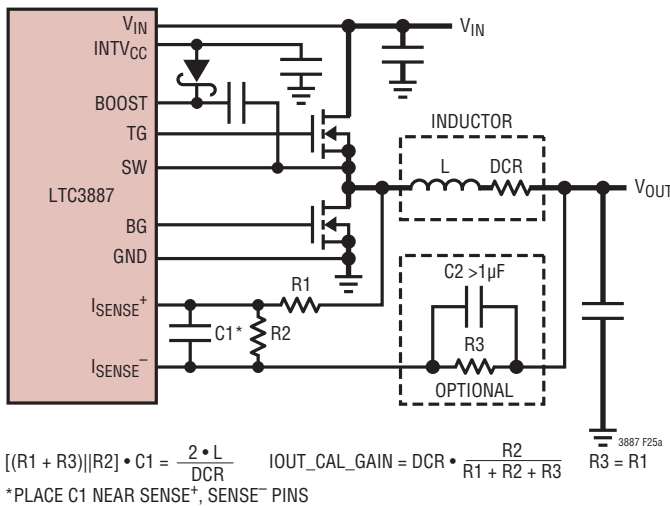

Figure 25a. Inductor DCR Current Sense Circuit
sharing between power stages. If DCR sensing is used (Figure 25a), sense resistor R1 should be placed close to the switching node (SW) to prevent noise from coupling into sensitive small-signal nodes. The capacitor C1 should be placed close to the IC pins. This impedance difference can result in loss of accuracy in the current reading of the ADC. The current reading accuracy can be improved by matching the impedance of the two  $I_{SENSE}$  inputs. To accomplish this add a series resistor between  $V_{OUT}$  and  $I_{SENSE}^-$  equal to R1. A capacitor of 1 $\mu$ F or greater should be placed in parallel with this resistor. If the peak voltage is <75mV at room temperature, R2 is not required.
For applications requiring the highest possible efficiency at high load currents, the LTC3887 is capable of sensing the voltage drop across the inductor DCR, as shown in Figure 25a. The DCR of the inductor represents the small amount of DC winding resistance of the copper, which can be less than 1mΩ for today's low value, high current inductors. In a high current application requiring such an inductor, conduction loss through a sense resistor would cost a few points of efficiency compared to DCR sensing.
C1 is usually selected to be in the range of 0.047µF to 4.7µF. This forces  $R1||R2$  to be approximately 2k. This resistance minimizes errors caused by the SENSE pin leakage currents. Adding optional elements R3 and C2 shown in Figure 25a will minimize offset errors associated with these leakage currents.